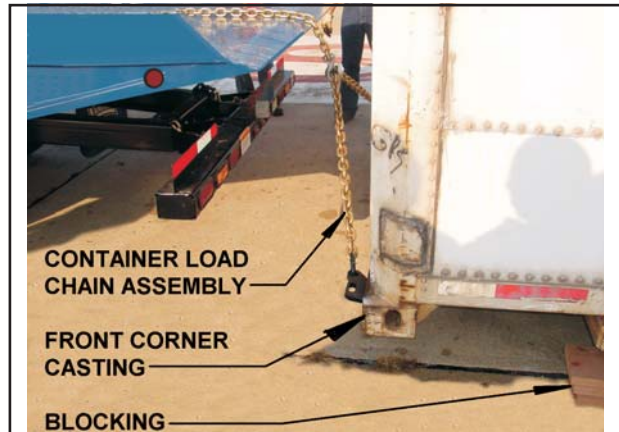

Figure 3-4 Front Corner Castings
- 3-12.2** Check the container to be loaded to see if the container front corner castings are an inch or so off the ground. If they are not, the container will have to be lifted first and blocks placed a few inches behind front of container to keep container an inch or so off the ground (**See Figure 3-4**).
3-13.2 Check the container to be loaded to see if the container front corner castings are an inch or so off the ground. If they are not, the container will have to be lifted first and blocks placed a few inches behind front of container to keep container an inch or so off the ground (**See Figure 3-4**).